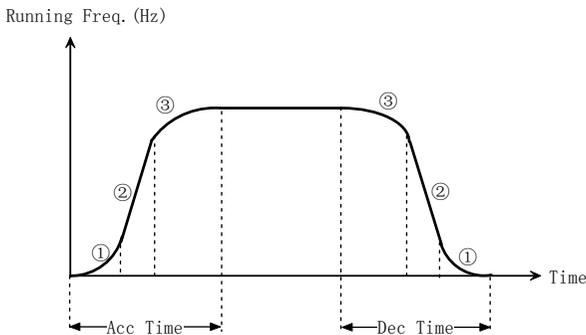

Fig. 5-1-5 S-curve acceleration/deceleration
Starting process of S-curve is shown in Fig. 5-1-5 as “①”, where the changing rate of output frequency increases from 0.
Rising process of S-curve is shown in Fig. 5-1-5 as “②”, where the changing rate of output frequency is constant.
Ending process of S-curve is shown in Fig. 5-1-5 as “③”, where the changing rate of output frequency decreases to zero.